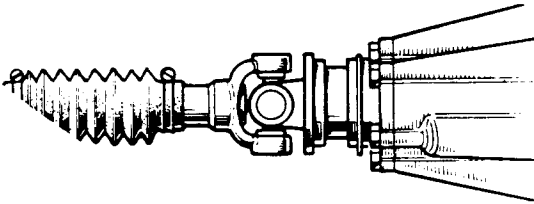

Fig H4.2
- (1) **Front propeller shaft:** Refer to Fig H4.2. Locate the shaft in position with the sleeve end towards the front axle.